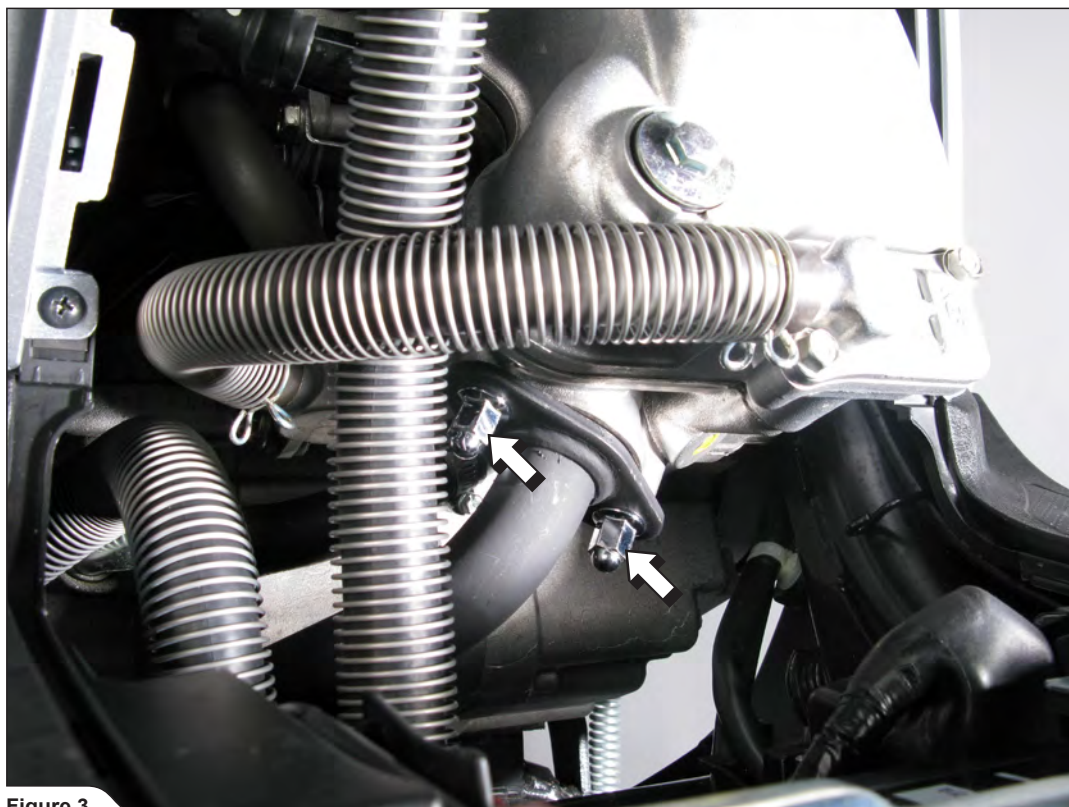

Figure 3
3. Unscrew the marked flange nuts (Figure 3).